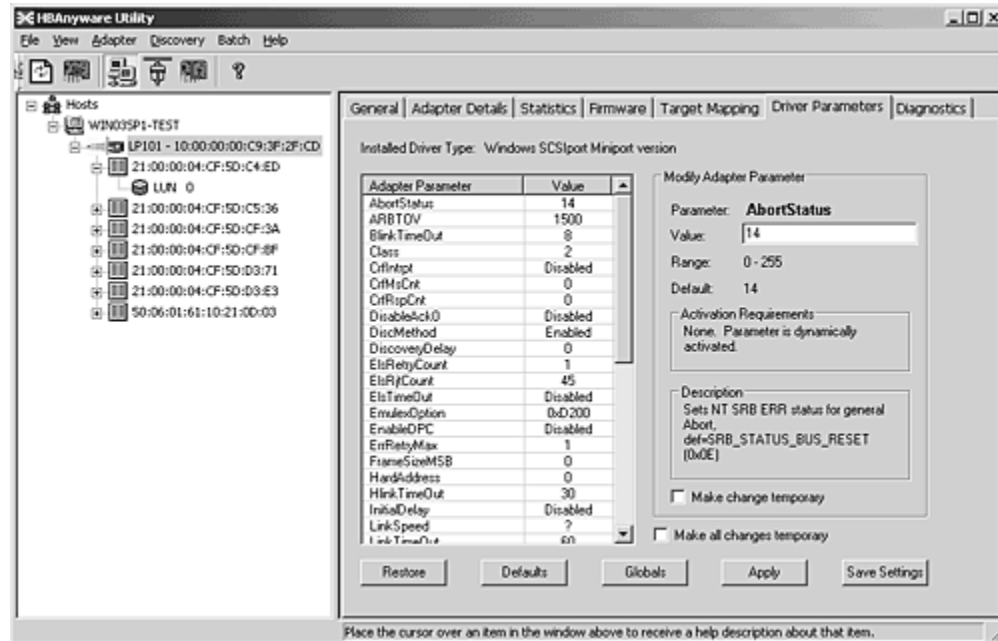

Figure 37: HBAAnyware, HBA Selected, Driver Parameters Tab
4. Select the Driver Parameters tab (see Figure 37). The Installed Driver Types field shows the driver version installed on the HBA.